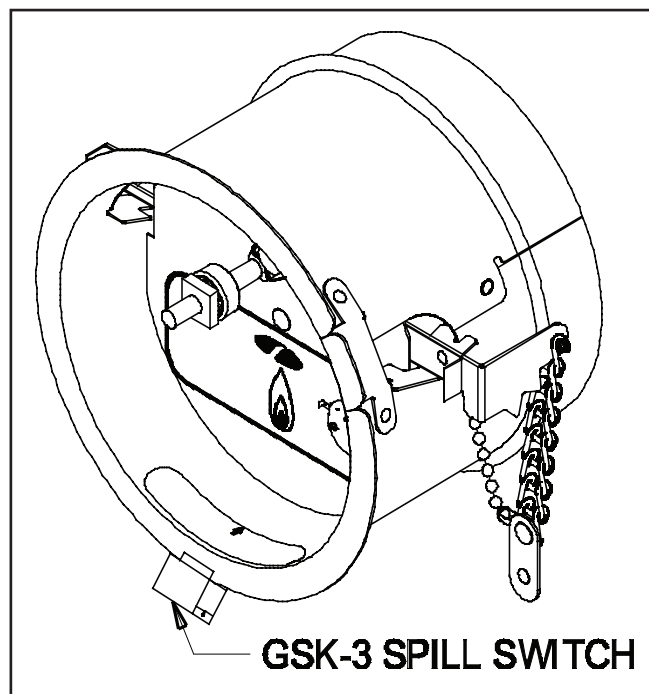

Figure 7
DRAFT CONTROLS (See Figures 7 & 8)
1. Locate the spill switch along the bottom edge of the draft control ring. (See Figure 7) Mark and drill a  $\frac{5}{32}$ " dia. hole through the ring.